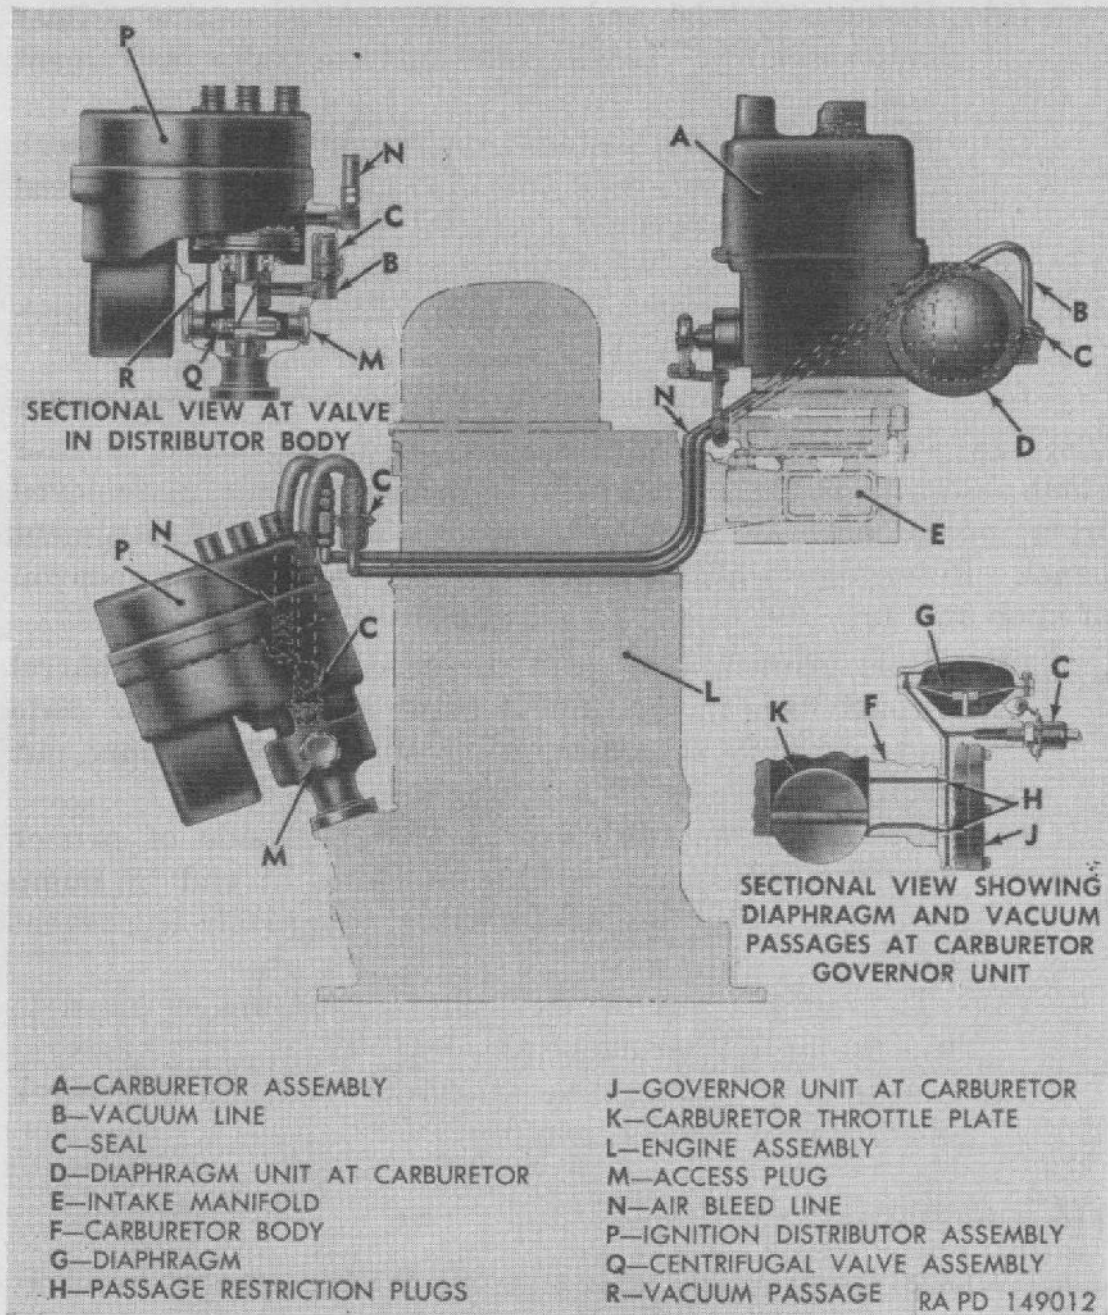

Figure 58. Arrangement of governor units and lines.
- (1) Remove clamp which connects air inlet elbow to carburetor.
- (2) Remove seal wire from vacuum line connector nut at carburetor, and disconnect vacuum line and air bleed line at carburetor (fig. 58).
- (3) Disconnect fuel flexible line at carburetor.
- (3) Connect fuel flexible line at carburetor. Connect air bleed and vacuum line at carburetor (fig. 58). Install seal wire to hold seal in place over vacuum line connector nut.
- (4) Place new seal at carburetor air inlet flange, position elbow at carburetor, and install clamp to hold elbow to carburetor.
a. GENERAL. Governor for limiting engine maximum speed consists of two units connected by a vacuum line. A diaphragm unit is incorporated into carburetor assembly and is interconnected with carburetor throttle valve shaft. Other unit consists of a centrifugal type valve which is part of ignition distributor assembly (fig. 58).
c. GOVERNOR OPERATION (fig. 58). Air bleed line (N) is installed between distributor and carburetor body, and vacuum line (B) connects passages in diaphragm unit at carburetor with passages at distributor which lead to centrifugal valve assembly (Q). During normal low speed operation a limited amount of air circulates through air bleed line (N) to distributor, through passage to valve chamber, through valve orifice, and returns to carburetor through vacuum line (B) entering carburetor throat through passages near throttle plate (K). When engine speed has increased to point at which orifice in centrifugal valve is re-